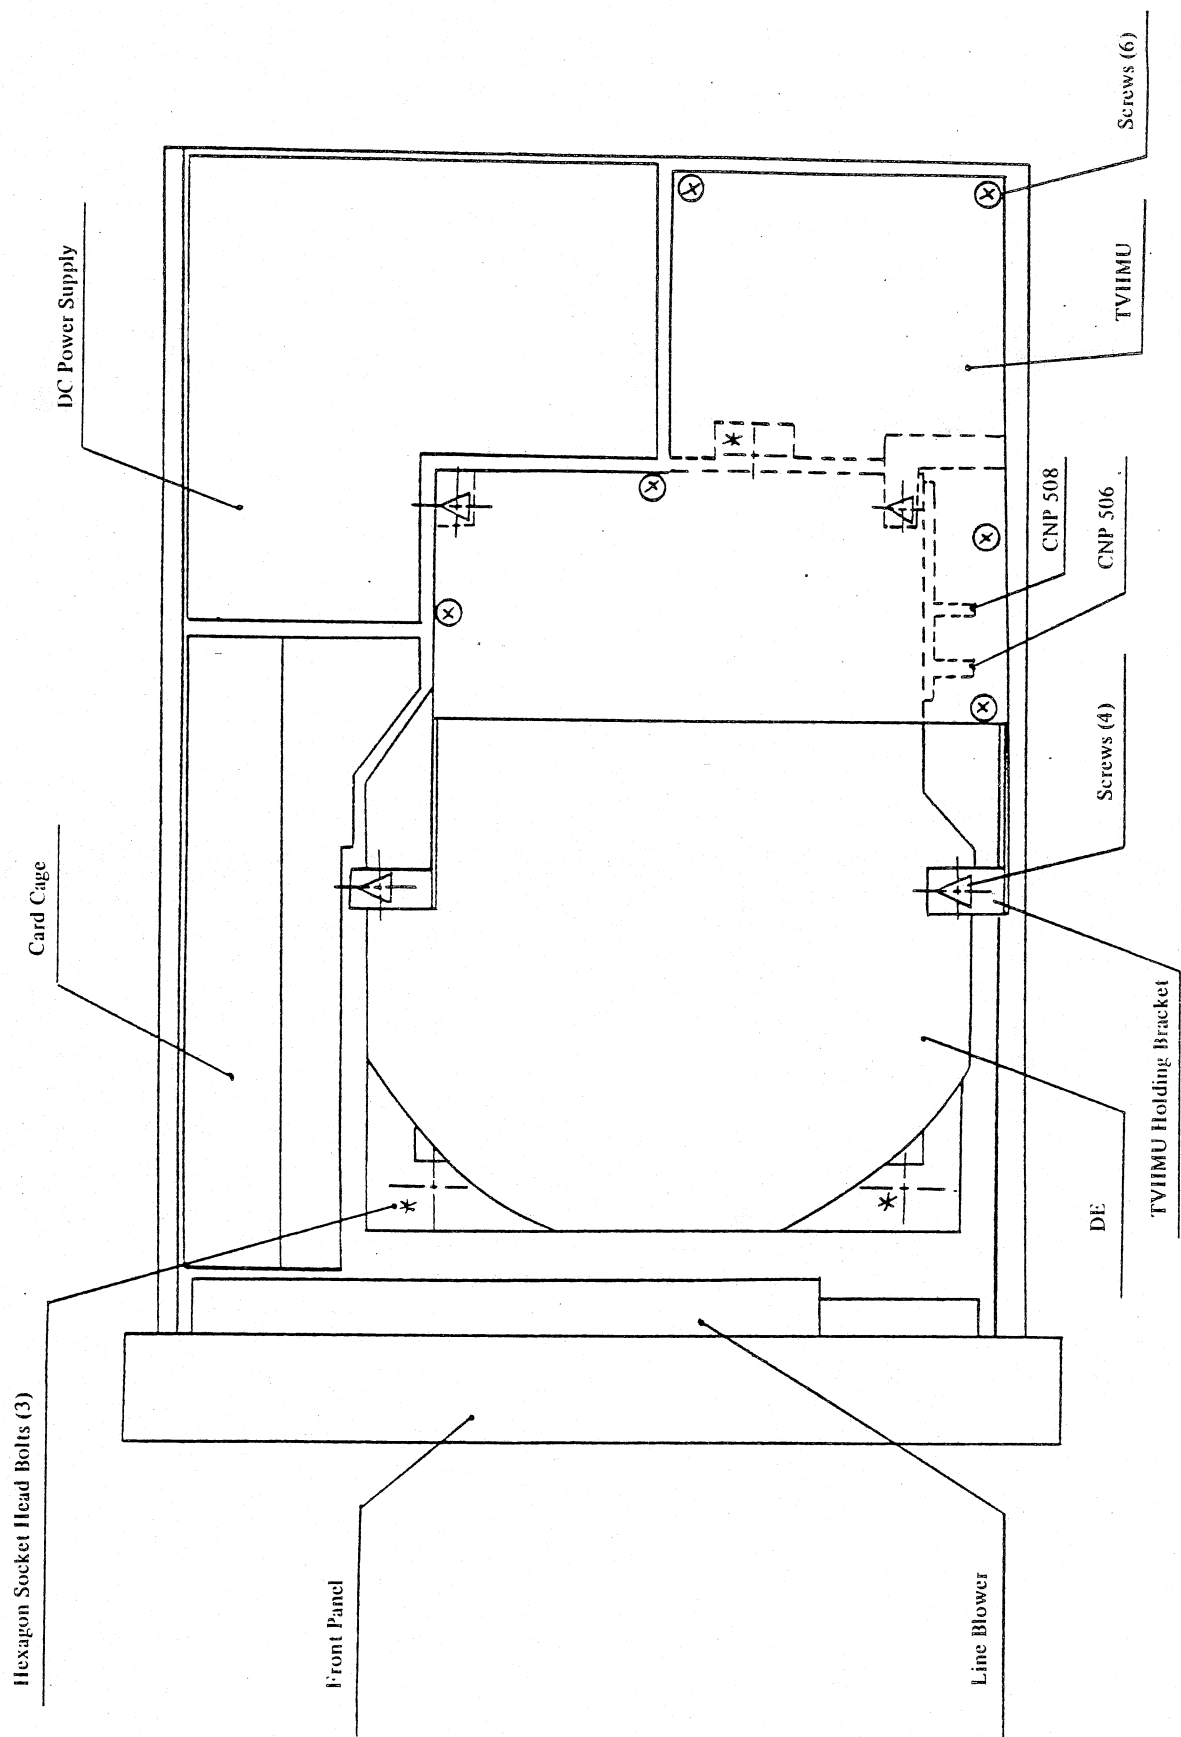

Figure 13.2-1 DE Replacement (Top View) Old version
4. Remove the 6 screws (Refer to Figure 13.2-1-A) holding the TVHMu PCB and remove the entire TVHMu PCB.
5. Remove the 4 screws (Refer to Figure 13.2-1-A) holding the TVHMu mounting bracket.
10. Remove the three hexagon socket-head bolts (Refer to Figure 13.2-1,*) from the shock mounts.
3. Remove the screw (Refer to Figure 13.2-1) and the wire.
8. Remove the three hexagon socket-head bolts (Refer to Figure 13.2-1, *) from the shock mounts.